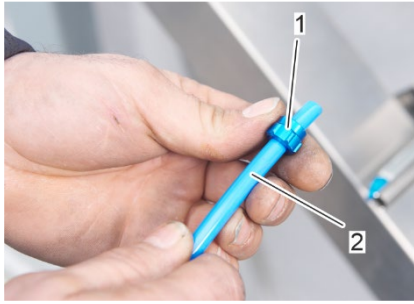

Fig. 67: Slide union nut on supply hose
12. Slide the union nut (Fig. 67/1) onto the compressed air supply hose (Fig. 67/2).